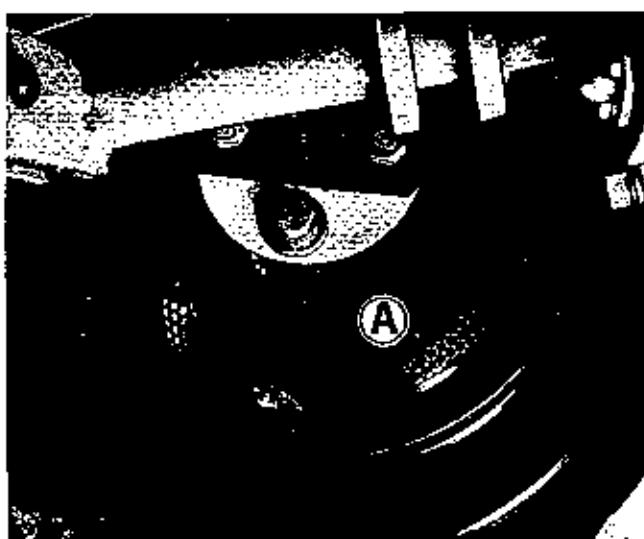

Figure 21. Engine blower screen located at rear of engine as seen from beneath tractor.
CLEAN ENGINE FINS AND SCREEN: See figure 21. The blower screen (A) must be kept relatively free of chaff, grass, etc., which would restrict the flow of cooling air to the engine. Material which collects can normally be removed with a brush after the engine is shut off. The screen may need to be cleaned more often when mowing dry grass.